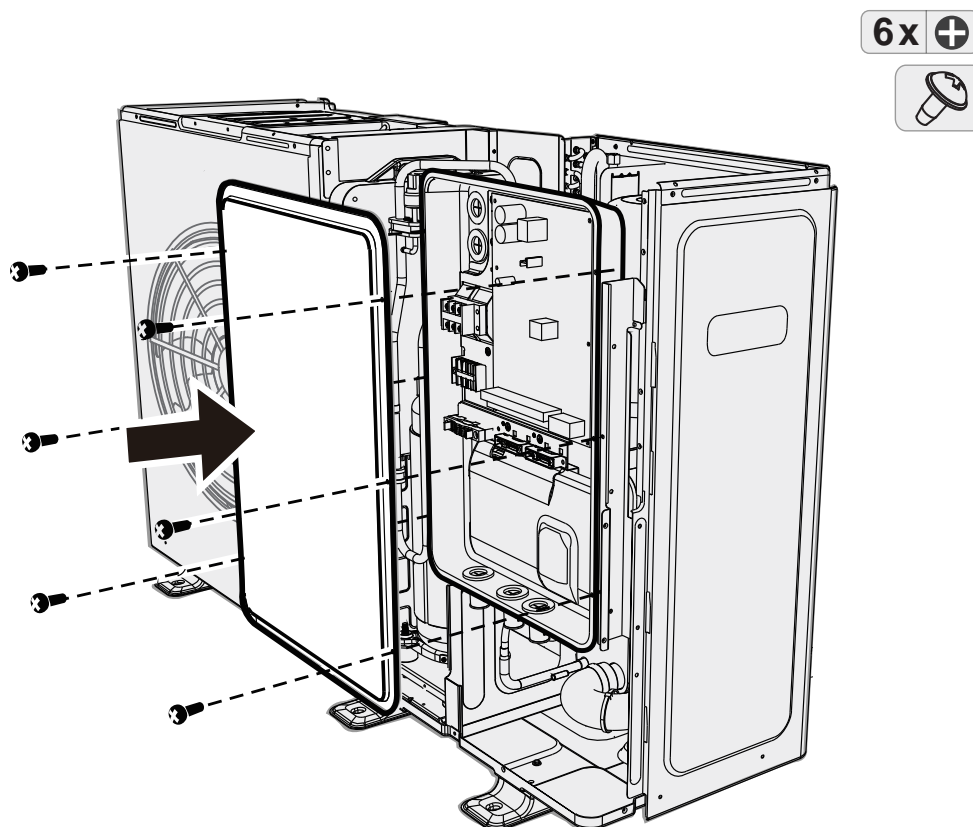

Figure 47. HP290 Monobloc (Access to Outdoor Control PCB)
- 2. Gain access to the HP290 Monobloc Outdoor Control PCB (see Figure 47). Remove and keep the Control Box cover retaining screws and remove the cover.